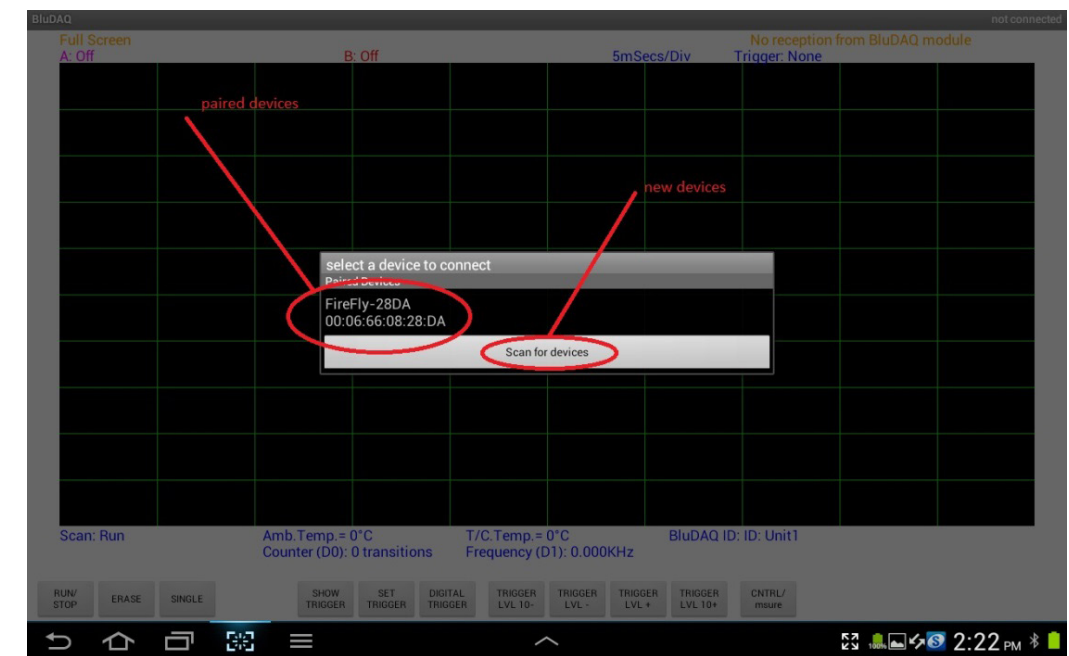

Figure 6
19. Look at the dialog that appears (Figure 6) if you don’t see the device you want, tap on “Scan for devices” and then select the device you want from the list provided.
20. Once you have paired with the Bluetooth transmitter, select the device from the Paired List as in Figure 6 above.